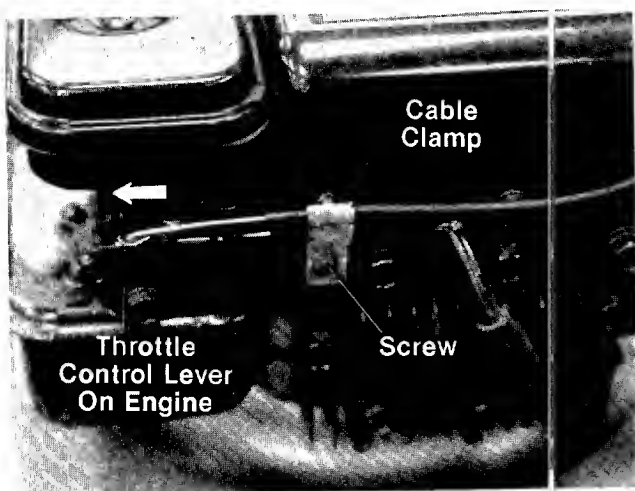

FIGURE 8.
12. Push the throttle control lever on the engine to the full open position (as far toward the outside of the unit as it will go) as shown in figure 8.
14. Remove the screw on the cable clamp shown in figure 8. Slip the control casing under the clamp. With the throttle lever on the engine still in the full open position, tighten the screw to secure the throttle control cable.